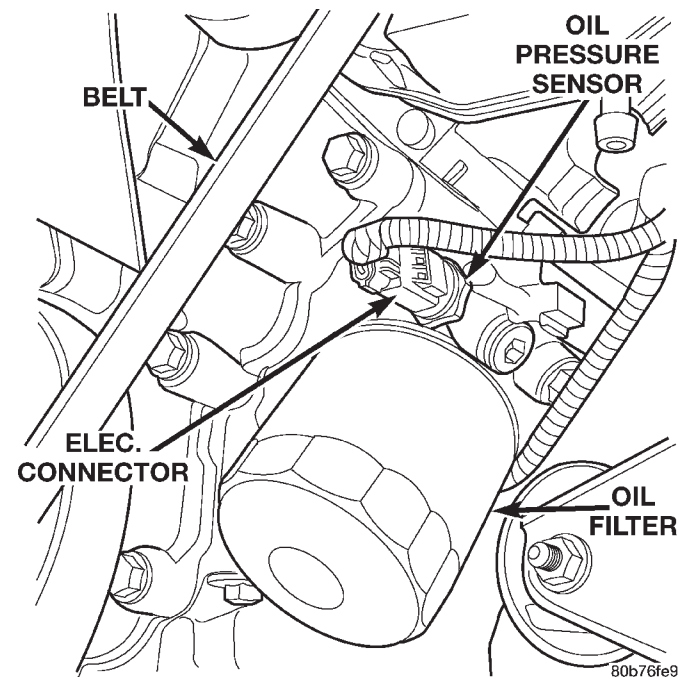

Fig. 106 Oil Pressure Sending Unit
- (1) Disconnect the negative cable from the battery.
- (2) Raise vehicle on hoist.
- (3) Remove front splash shield.
- (4) Disconnect oil pressure sender wire (Fig. 106).
- (5) Remove the pressure sender (Fig. 106).